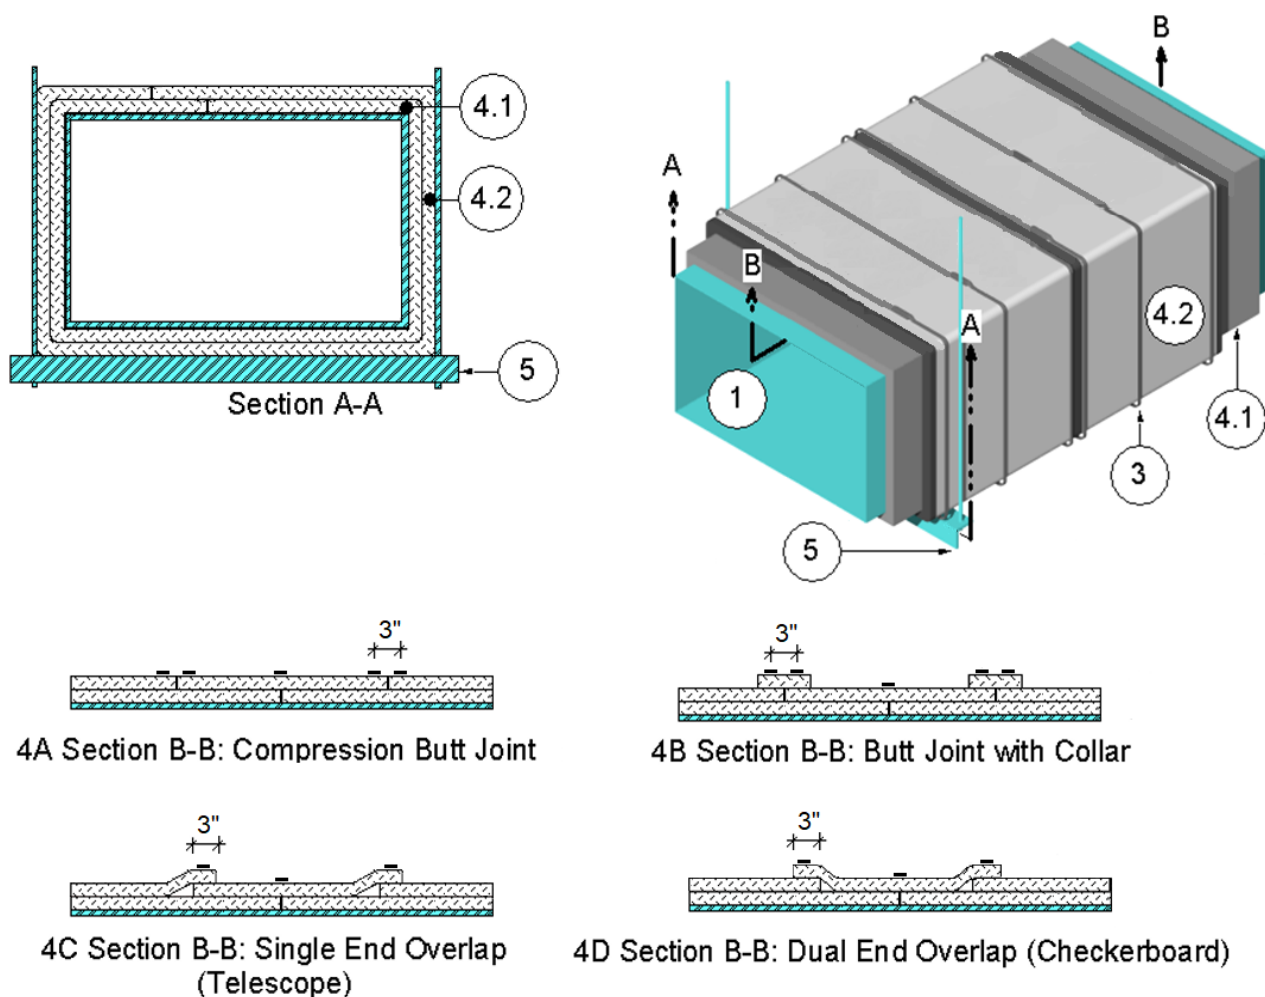

Figure 1. Grease Duct with FireMaster® FastWrap® XLS Duct Insulation
- A. **Compression Butt Joint:** Refer to Figure 1, Illustration 4A. Use compression butt joints with min. 1-1/2 in. compression at all joints. Stagger first layer and second layer joints a min. of 6 in. Offset insulation pieces so that first layer insulation pieces are centered under the second layer insulation transverse joints.
- B. Butt Joint with Collar:** Refer to Figure 1, Illustration 4B. Use tightly butted joints at all joints. Stagger first layer and second layer joints a min. of 6 in. Offset insulation pieces so that first layer insulation pieces are centered under the second layer insulation transverse joints. Place and center 6 in. wide insulation collar over each transverse butt joint. Secure the insulation with pins or banding.
- C. Single End Overlap (Telescope):** Refer to Figure 1, Illustration 4C. Use tightly butted joints at all first layer joints. Use 3 in. min. overlaps at all second layer joints, overlapping each adjacent insulation edge with the edge of the next piece of insulation. Stagger first layer and second layer joints a min. of 6 in. Secure the insulation with pins or banding.
- D. Dual End Overlap (Checkerboard):** Refer to Figure 1, Illustration 4D. Use tightly butted joints at all first layer joints. Use 3 in. min. overlaps at all second layer joints, overlapping every other piece of insulation onto the adjacent pieces. Stagger first layer and second layer joints a min. of 6 in. Secure the insulation with pins or banding.